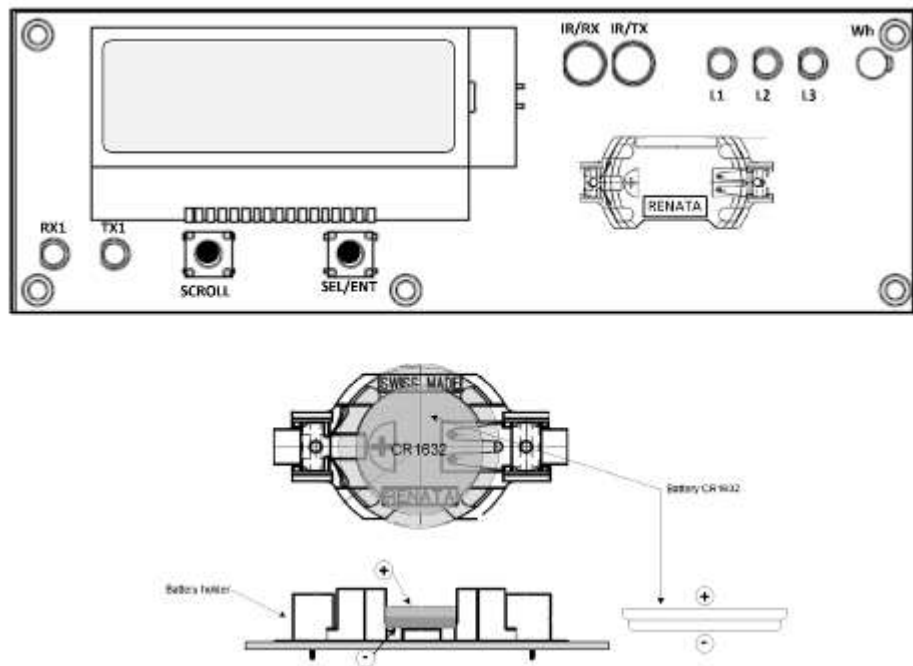

Figure 2-21 EM13X Series Battery Replacement
- 3) Place the new CR1632 battery into the battery holder while holding up the battery holder retractable tab in such a way that the (+) battery pole is toward the battery holder, as shown in Figure 2-21.